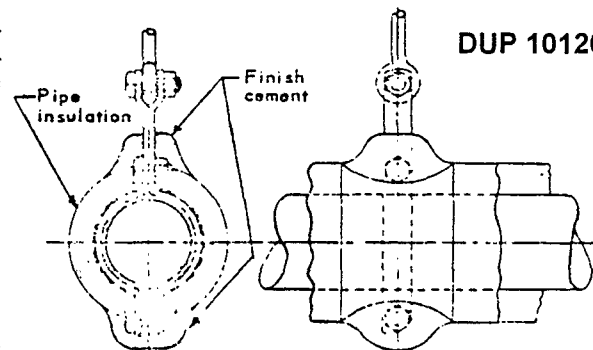

FIGURE 3
5.1 Pipe hangers attached to the pipes shall be insulated. Where possible, the pipe insulation should be cut out to fit snugly over the hanger with the outer surface of the insulation unbroken and free from bulging. Where the shape of the hanger does not permit this procedure, the pipe insulation can be butted up to the hanger and the void filled with Insulation Cement, Code 502, until flush with the pipe insulation. See Figure 3 and 4. The insulation around the hanger clamp and rod shall be sealed with Finish Cement, Code 712.